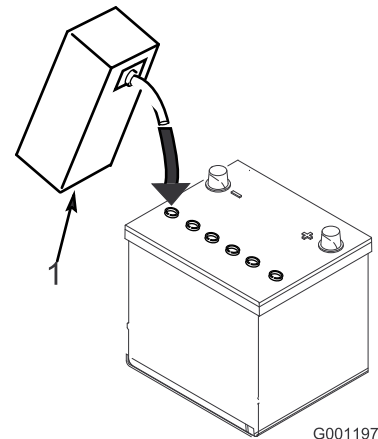

Figure 7
3. Carefully fill each cell with electrolyte until the plates are covered with about 1/4 inch (6 mm) of fluid (Figure 7).
4. Allow approximately 20 to 30 minutes for the electrolyte to soak into the plates. Fill as necessary to bring the electrolyte to within about 1/4 inch (6 mm) of the bottom of the fill well (Figure 7).